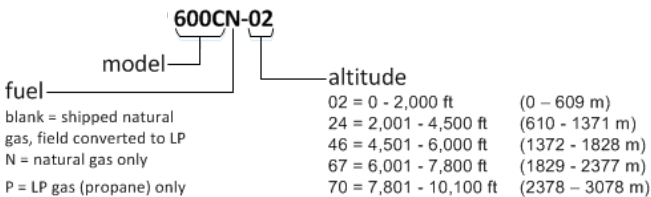

Figure 55: Boiler Model (Boiler Type) Decoding
11. Use the ↓ ↑ arrows to select the correct size and altitude of your boiler. Press the  button to enter your selection. See Figure 55.